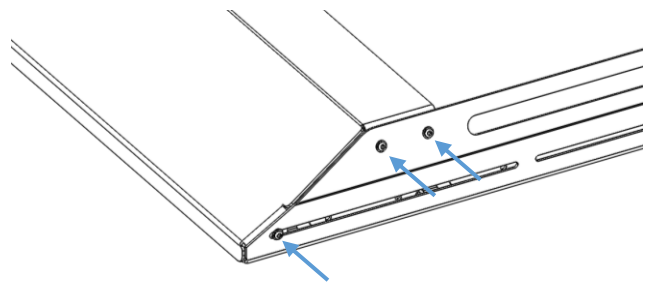

Figure 13: Front Air Dam Assembly
9. Install the Air Dam in the front as shown in Figure 13 on both sides.